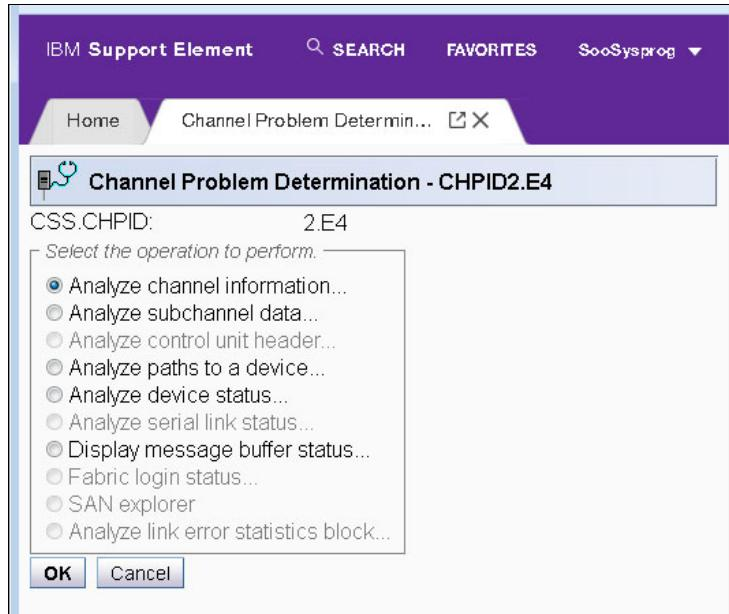

Figure 5-35 Channel Problem Determination: Analyze channel information
14. HMC now shows the Channel Problem Determination options. Select **Analyze channel information**, then click **OK**. (Figure 5-35).